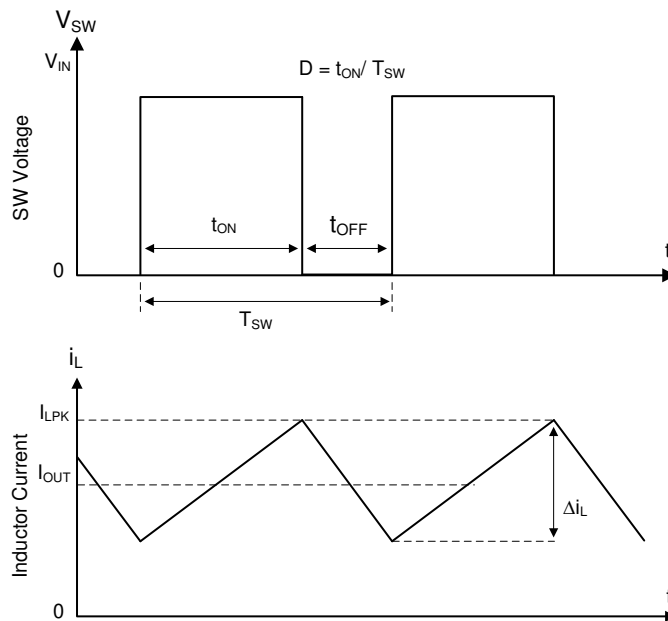

Figure 6-1. SW Node and Inductor Current Waveforms in Continuous Conduction Mode (CCM)
The following operation description of the TPSM843321 refers to the functional block diagram and to the waveforms in Figure 6-1. The TPSM843321 is a synchronous buck converter with integrated high-side (HS) and low-side (LS) MOSFETs (synchronous rectifier). The TPSM843321 supplies a regulated output voltage by turning on the HS and LS NMOS switches with controlled duty cycle. During high-side switch on time, the SW pin voltage swings up to approximately V_{IN} , and the inductor current, i_L , increases with linear slope $(V_{IN} - V_{OUT}) / L$. When the HS switch is turned off by the control logic, the LS switch is turned on after an anti-shoot-through dead time. Inductor current discharges through the low-side switch with a slope of $-V_{OUT} / L$. The control parameter of a buck converter is defined as Duty Cycle $D = t_{ON} / t_{SW}$, where t_{ON} is the high-side switch on time and t_{SW} is the switching period. The converter control loop maintains a constant output voltage by adjusting the duty cycle D . In an ideal buck converter where losses are ignored, D is proportional to the output voltage and inversely proportional to the input voltage: $D = V_{OUT} / V_{IN}$.